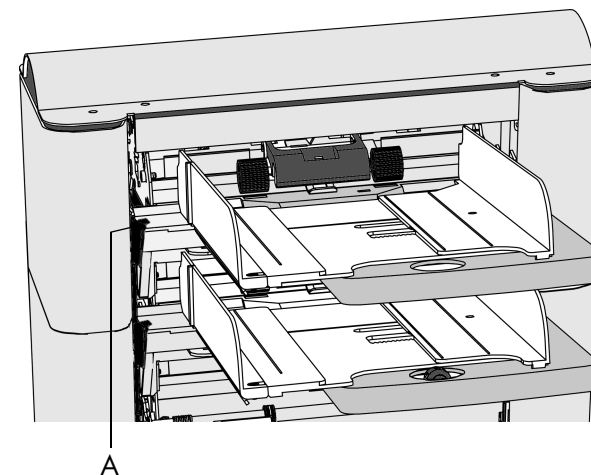

Fig. 13
- push handle A (fig. 13) downwards.